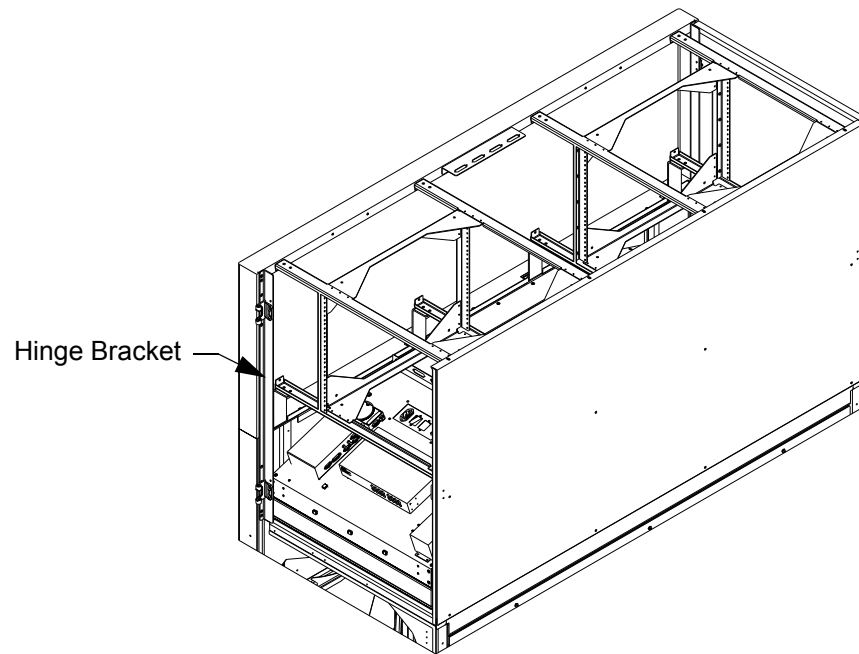

Figure 8-3: Remove Hinge Bracket
7. Remove the hinge bracket for the upper door by removing the screws that attach the bracket to the upper enclosure. (2 for a standard enclosure, 4 for an enclosure with electronics bays) See Figure 8-3.